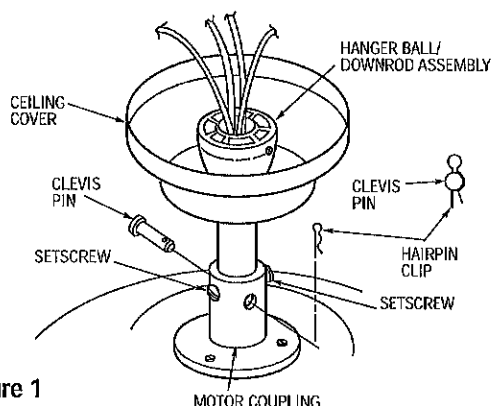

Figure 1
- ☐ 3. Remove the two setscrews from the motor coupling. Align the clevis pin holes in the downrod with the holes in the motor coupling. Install the clevis pin and secure with the hairpin clip (Figure 1). The clevis pin must go through the holes in the motor coupling and the holes in the downrod. Be sure to
- ☐ 4. Reinstall the two setscrews in the motor coupling. While pulling up on the hanger ball, securely tighten the setscrews. (Figure 1).